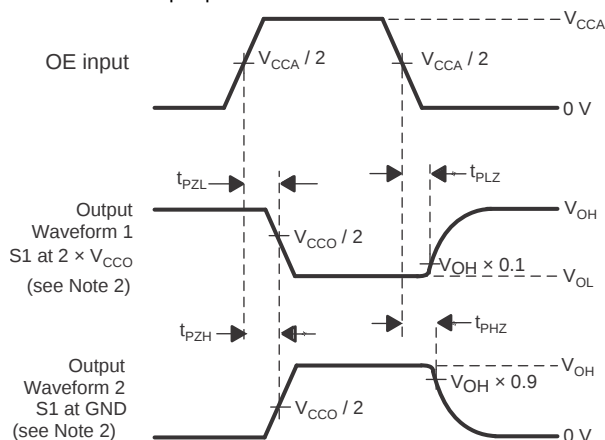

图 9. Enable and Disable Times
- B. Waveform 1 in 图 9 is for an output with internal such that the output is high, except when OE is high (see 图 6). Waveform 2 in 图 9 is for an output with conditions such that the output is low, except when OE is high.